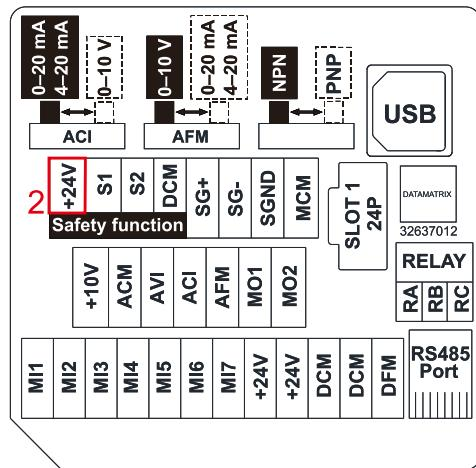

Figure 6-7 Control Terminal Location Diagram
9. Use the $+24\text{ V}_{\text{DC}}$ power supply of the safety function (as shown in Area 2 in Figure 6-7) for STO only. Do NOT use it for other purposes.